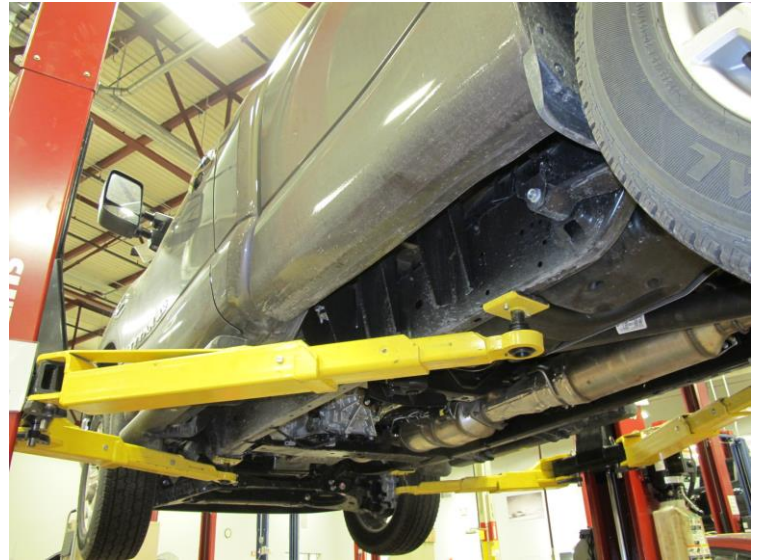

Figure 1
2. Raise the vehicle on a lift (Figure 1).